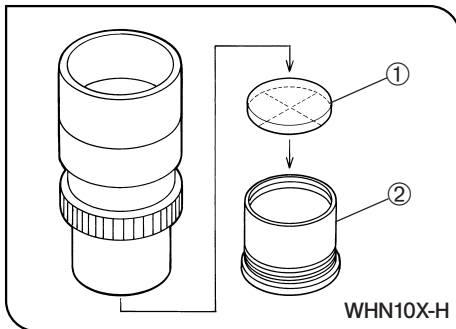

Fig. 16
4 Using the Eyepiece Micrometer Disk (Figs. 16 & 17)
Following Fig. 16, unscrew the micrometer-mounting frame ② built into the eyepiece from the eyepiece and place a micrometer disk ① into the mounting frame. The engraving on the eyepiece micrometer disk should face downward in the micrometer-mounting frame.